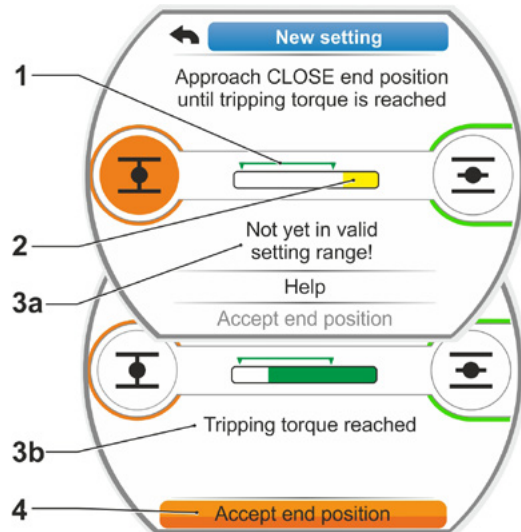

Fig. 12: Approach end position CLOSED in torque dependent cut-off mode
- b) Set selection marker to 'Accept end positions' menu item (fig. 12, item 4).
Select CLOSE operation direction (OPEN for setting in OPEN direction) and hold down Drive Controller for more than 3 s (refer also to note on p. 50). The actuator automatically moves until reaching the end position. Display indicates whether the valid setting range (fig. 12, item 1) has been reached (3b) or not yet (3a) and the progress bar (2) changes the color from yellow to green. Once the tripping torque has been reached, the „Tripping torque reached” message (3b) is displayed and the 'Accept end position' menu item is active (fig. 12, item 4).